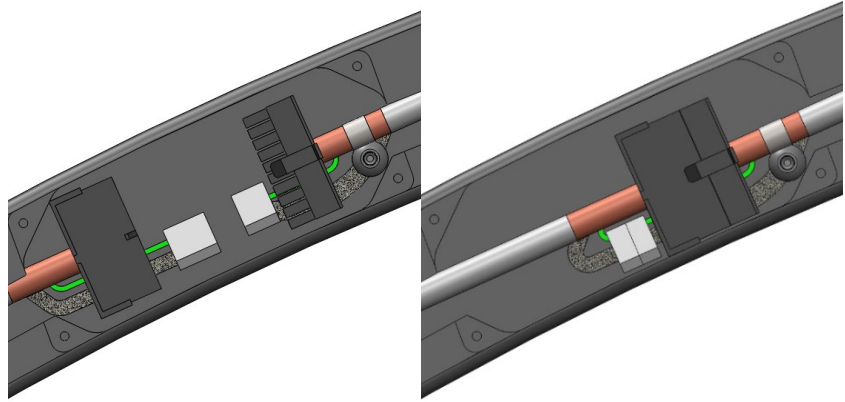

Fig. 17
3. Plug both connectors from the Laser Head Assembly into both connectors from the Main Arm until both locking tabs on the connectors are locked in place as shown in fig. 17